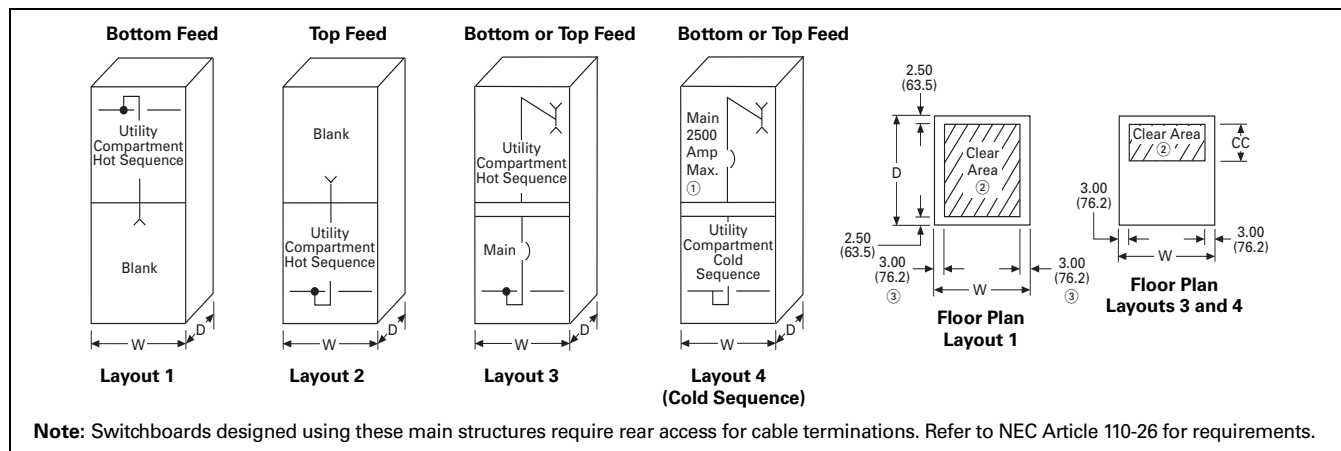

Figure 21.2-2. Utility Compartment Layouts—Dimensions in Inches (mm)
Table 21.2-1. Dimensions for Figure 21.2-2 Layouts—Dimensions in Inches (mm) (Continued)
⑤ Dimensions are the same as standard NEMA utility compartments, refer to Page 21.2-7.
⑥ For special applications approved by the utility.
⑦ Refer to Eaton.
⑧ For limiter lugs or more than six mechanical lugs per phase, a separate pull section is required.
⑨ For limiter lugs or more than six mechanical lugs per phase, a 12.00-inch (304.8 mm) pull box is required.
**Table 21.2-1. Dimensions for Figure 21.2-2 Layouts—Dimensions in Inches (mm) (Continued)**